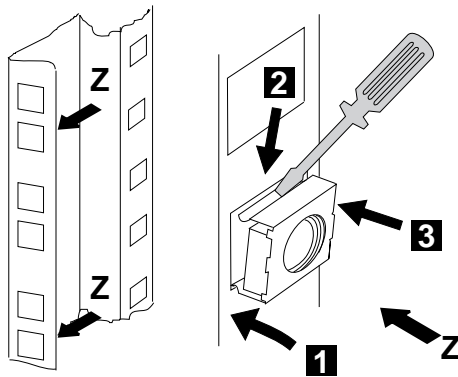

Figure 1-5. Captive Nuts Installation
6. \_\_\_\_ **Install** two captive nuts PN 58G5766 in the rear side of the controller expansion as shown in Figure 1-5, refer also to Figure D-7 on page D-8 to determine the location of the captive nuts from the brackets position.